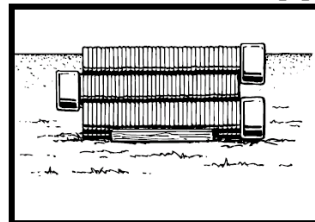

Fig E2
- 3.4 While stacking, alternate the socket/coupler ends at each row of stacked pipes as per Fig. E2.